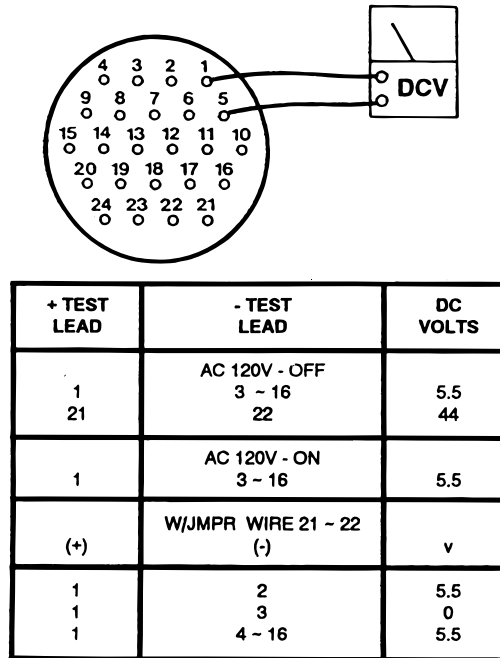

Figure 6-19. Table Base Connector CN13
1. Disconnect the Pendant Control connector from the base connector, connect all other connectors and use a DC voltmeter to measure the following sockets located in the table base connector CN13. See figure 6-19.